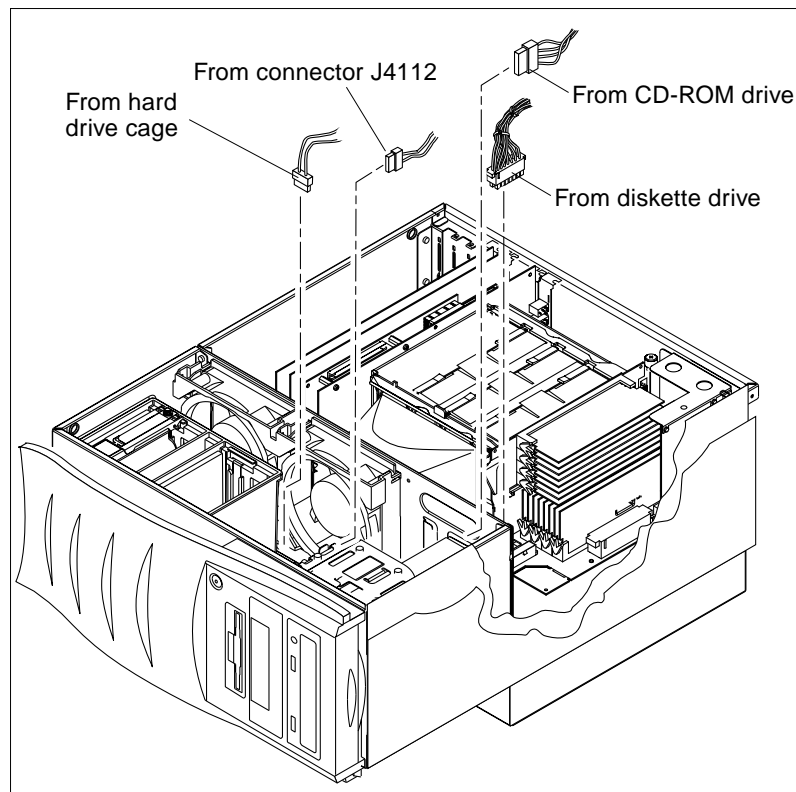

FIGURE 7-5 Removing and Replacing the Peripheral Power Cable Assembly
**3. Disconnect the peripheral power cable assembly as follows (FIGURE 7-5):**
1. Position the peripheral cable assembly into the chassis (FIGURE 7-5).
2. Connect the peripheral power cable assembly as follows (FIGURE 7-5):